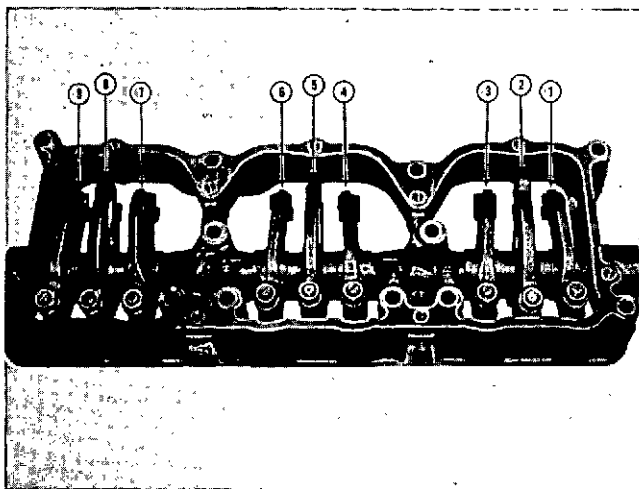

Fig. 3-1-7, V40303. Rocker lever assembly
5. Start shaft into housing, install levers on shaft as shaft is pushed through housing. Fig. 3-1-7. See Parts Catalog for part numbers of intake and exhaust levers. See Fig. 3-1-7 for correct position of levers.